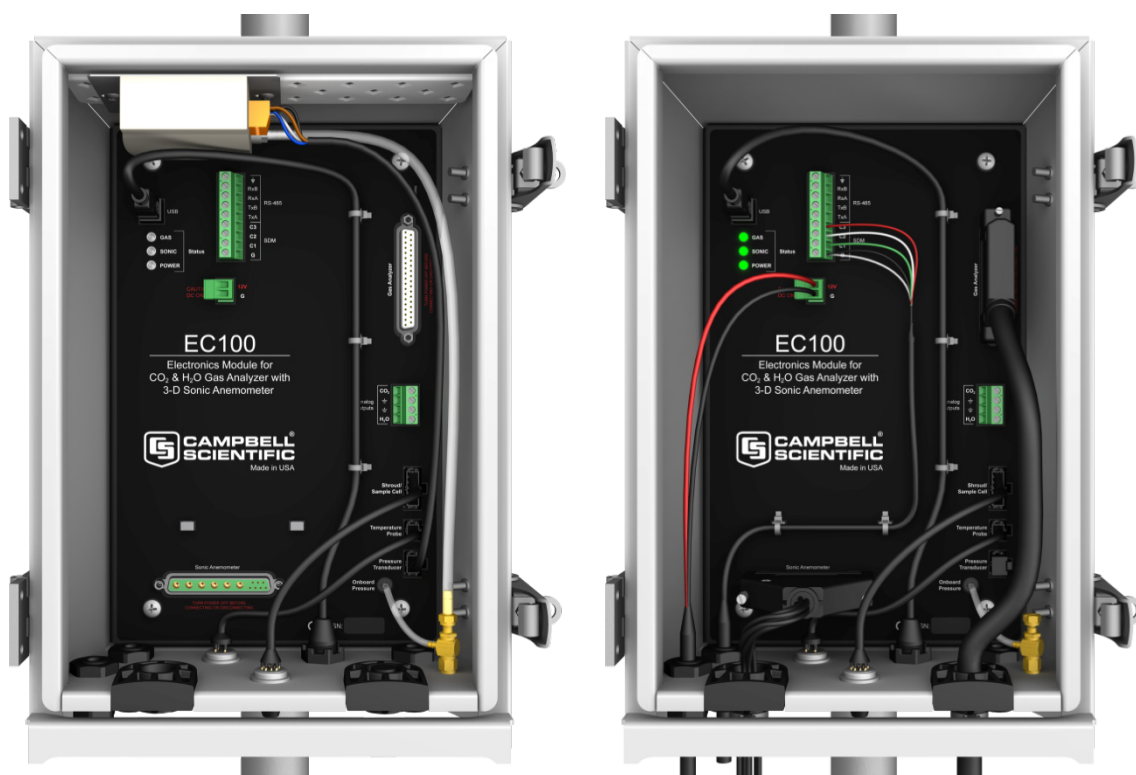
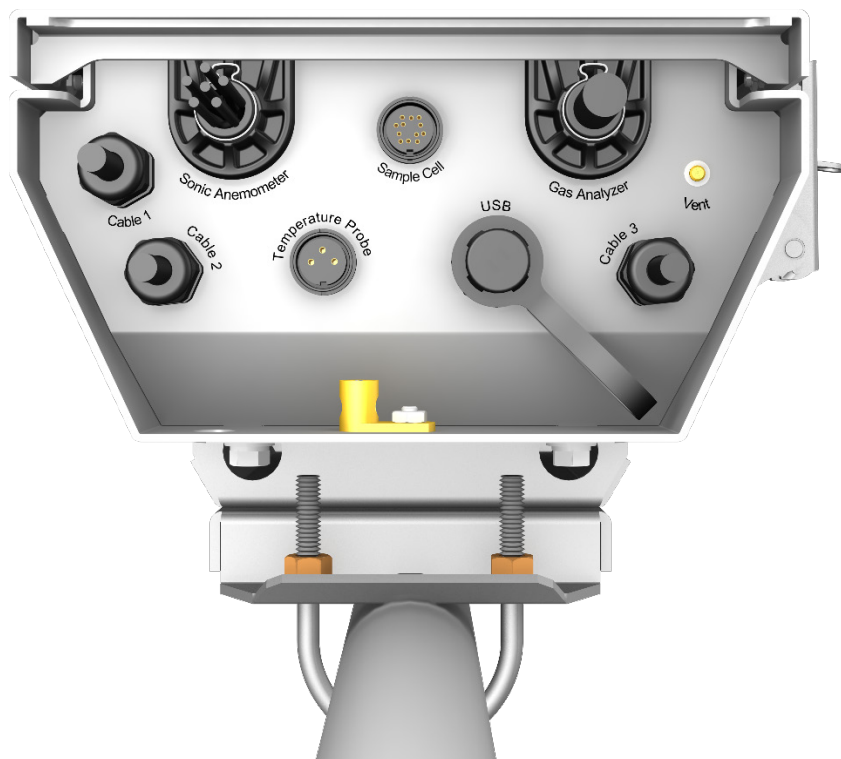

FIGURE 6-5. EC100 electronics front panel with enhanced barometer. At left, as received from Campbell Scientific. At right, all wiring and connections complete.
FIGURE 6-6. Base of EC100 enclosure
FIGURE 6-5, FIGURE 6-6, and FIGURE 6-7 show the EC100 electronics panel, the bottom of the EC100 enclosure, and sensor connections to the EC100, respectively. Refer to these figures during wiring and connecting.
(labelled **Gas Analyzer**) and tighten the thumbscrews (see FIGURE 6-5). The gas analyzer cable is approximately 3 m (9.8 ft) in length.
3. Connect the IRGASON sonic cable. Similar to (a), begin by removing the black rubber cable entry plug found on the bottom left of the EC100 enclosure. Insert the cable entry plug on the cable into the slot and connect the male end to the female connector labelled **Sonic Anemometer** on the EC100 electronics (see FIGURE 6-5). The sonic cable is approximately 3 m (9.8 ft) in length.
4. Connect the IRGASON temperature probe. Unscrew the temperature connector cover, which is found on the base of the EC100 enclosure (see FIGURE 6-6). Insert the three-prong probe connector into the female